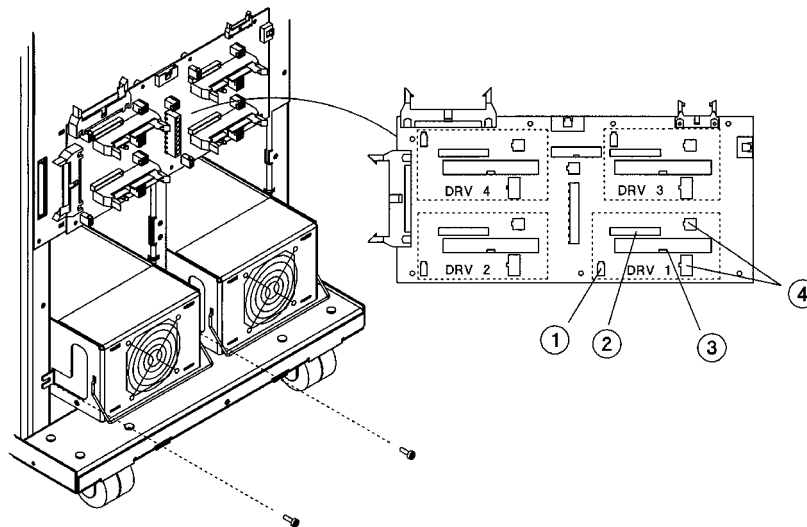

Figure 19: Removing Drive Cables and Enclosure Mounting Screw
2. Remove the drive cables for the failed drive from the interposer PCA. The cable group for drive 1 is shown on Figure 19:
3. Remove the T-20 enclosure mounting screw on the enclosure holding the failed drive. The mounting screws for both drives are shown in Figure 19).
14. Insert the drive enclosure into the chassis and secure the enclosure with a T-20 screw (see Figure 19).